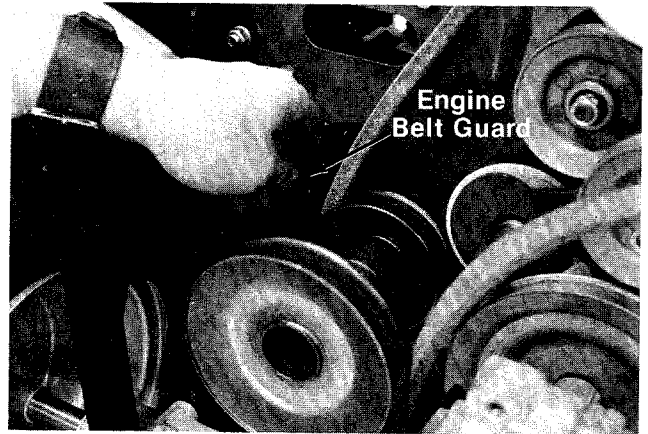

FIGURE 34.
9. Remove two hex bolts, nuts and lock washers from the engine pulley belt guard at rider frame to allow the engine pulley belt guard to drop down out of the way. See figure 34.